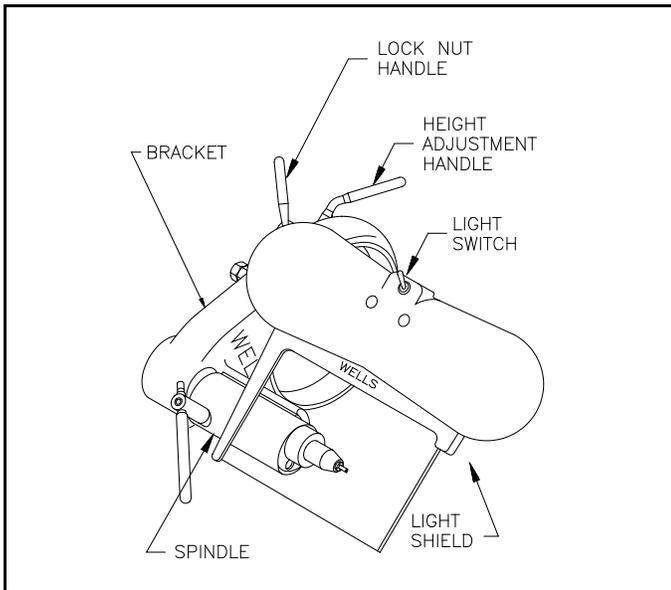

Figure 1. Bracket Assembly features
- 5.5.2 Hold the Spindle and loosen the height adjustment handle. See Figure 1.